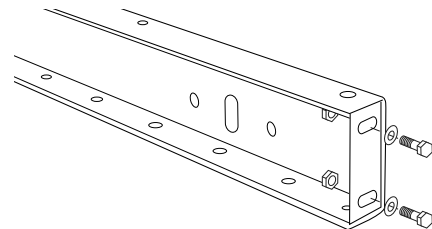

Figure 4
1. Hardware is pre-screwed into the ends of the conveyor frame. Remove the hardware. (See Figure 4)